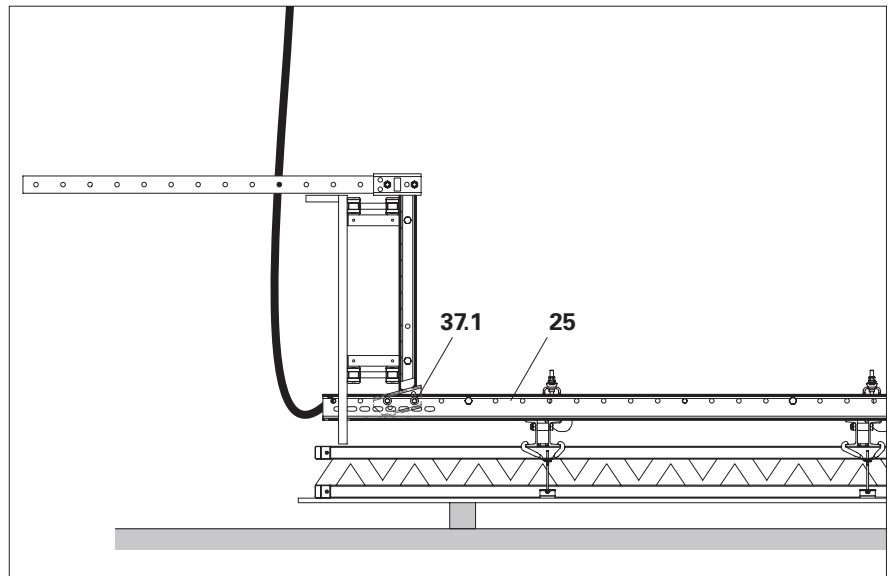

Fig. C1.11
6. Mount the pre-assembled platform on the strongback (25) with the 2x filler pins  $\varnothing 21 \times 120$  (37.1), washer and cotter pin 5/1 supplied.
7. Attach the strongback to the crane and rotate the formwork. (Fig. C1.11)